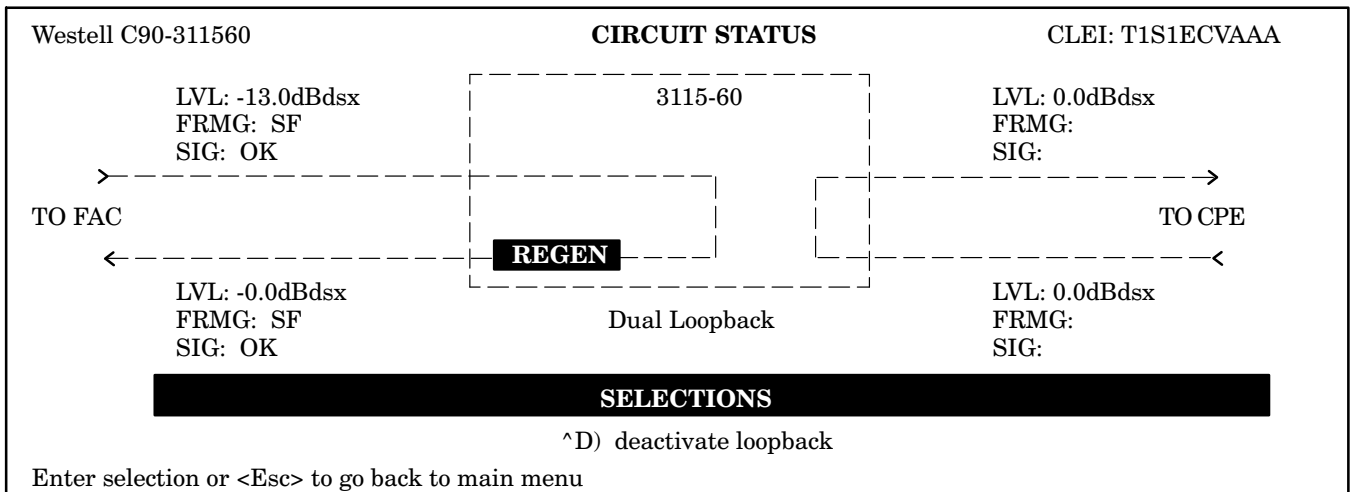
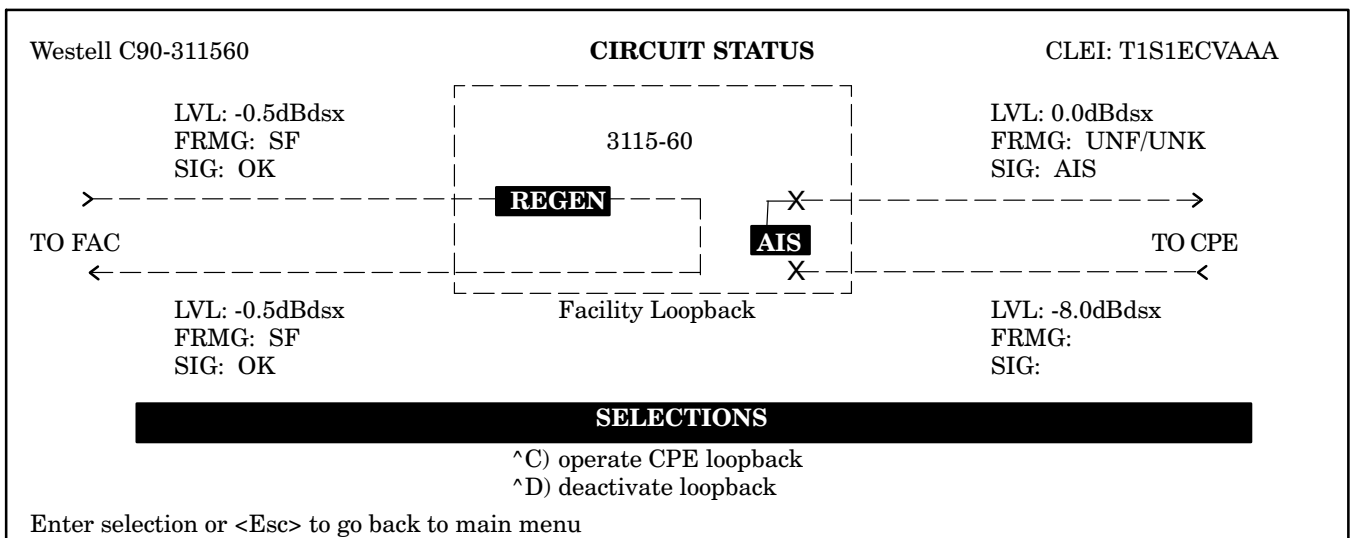

Figure 22. Typical Circuit Status Screen - Dual Loopback
Figure 23. Typical Circuit Status Screen - Facility Loopback with FAC-to-CPE REGEN Enabled
9.2.6.6 Dual Loopback. Dual loopback is achieved by using both <Ctrl><F> and <Ctrl><C> (see Figure 22). The graphical representation will change appropriately to show the loopback state as well as the configuration of transmission parameters and options in the loopback path. Figure 23 shows the NIU in a single loopback mode when FAC-to-CPE Regeneration is Enabled.